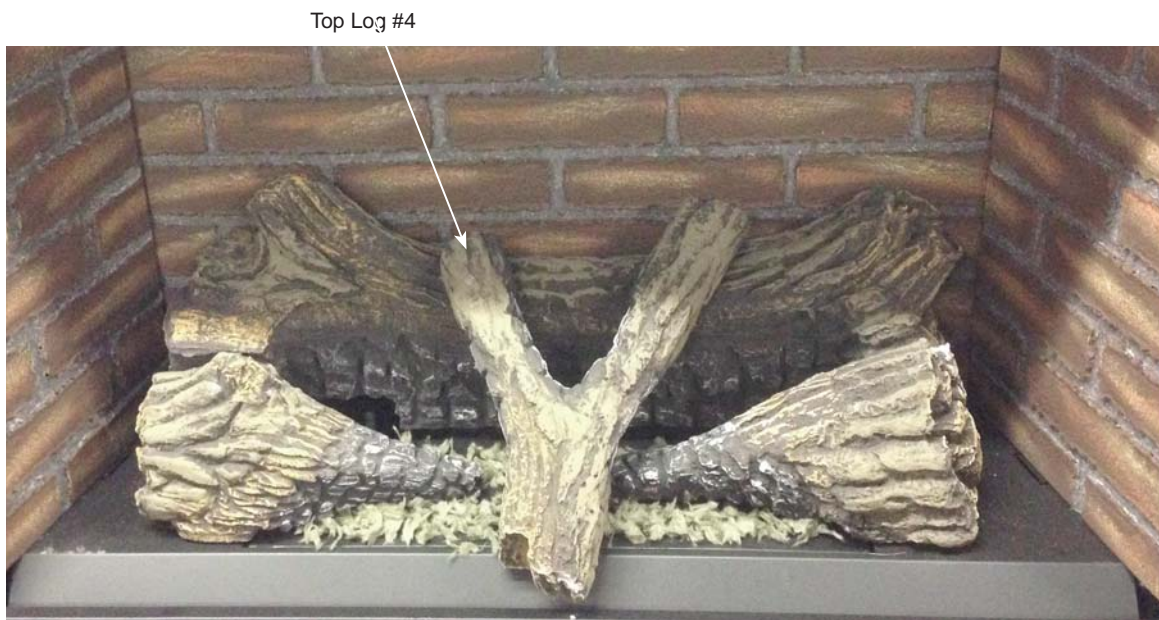

Figure 72
3. Bend the tab in the center front of the false hearth up to a 90° angle. *Figure 71*. Place the top log (#4) by resting the square notch located on the bottom of the log over the tab mentioned above. Rest the top part of the log on the flat areas of the rear log. *Figure 72*